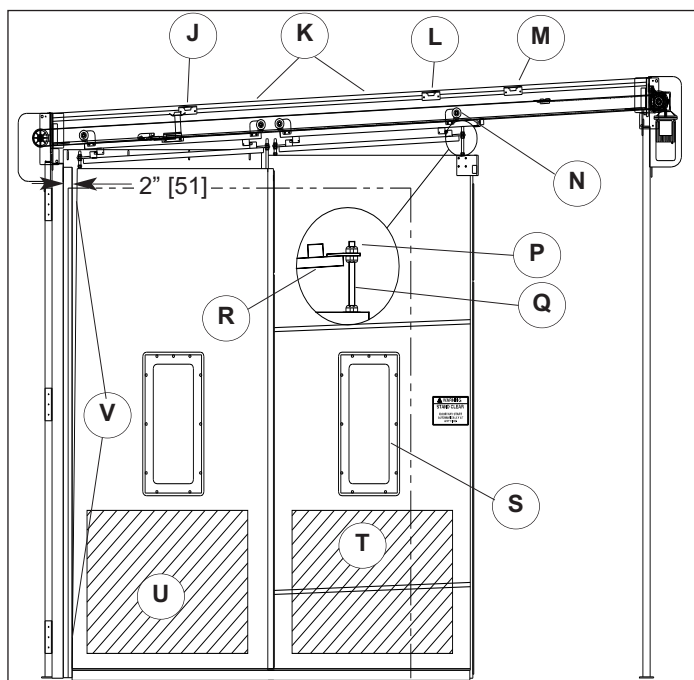

Figure 13.3
1. Place panel (A) on it's side and remove the top 5/8" [16] nut (B).
2. Push the panel hangers (C) toward the outside of header (D).
3. With the 4P or SS design, install the follower panels (E) to the rear panel hangers closest to the wall. The follower panels will be marked B-RH and B-LH. The 2 lead panels will be marked A-RH and A-LH.
4. Install panel, making sure not to allow the panel to bend. Insert the studs (F) at the top of the panel through the panel hanger holes and fasten with the 5/8" [16] nut (15/16" wrench) removed prior, **Figures 13.3 & 14.1**. If room is limited, the stud may need to be loosened up and turned into panel to be able to get the panel low enough. Make sure to turn the stud back out the same number of threads turned in.